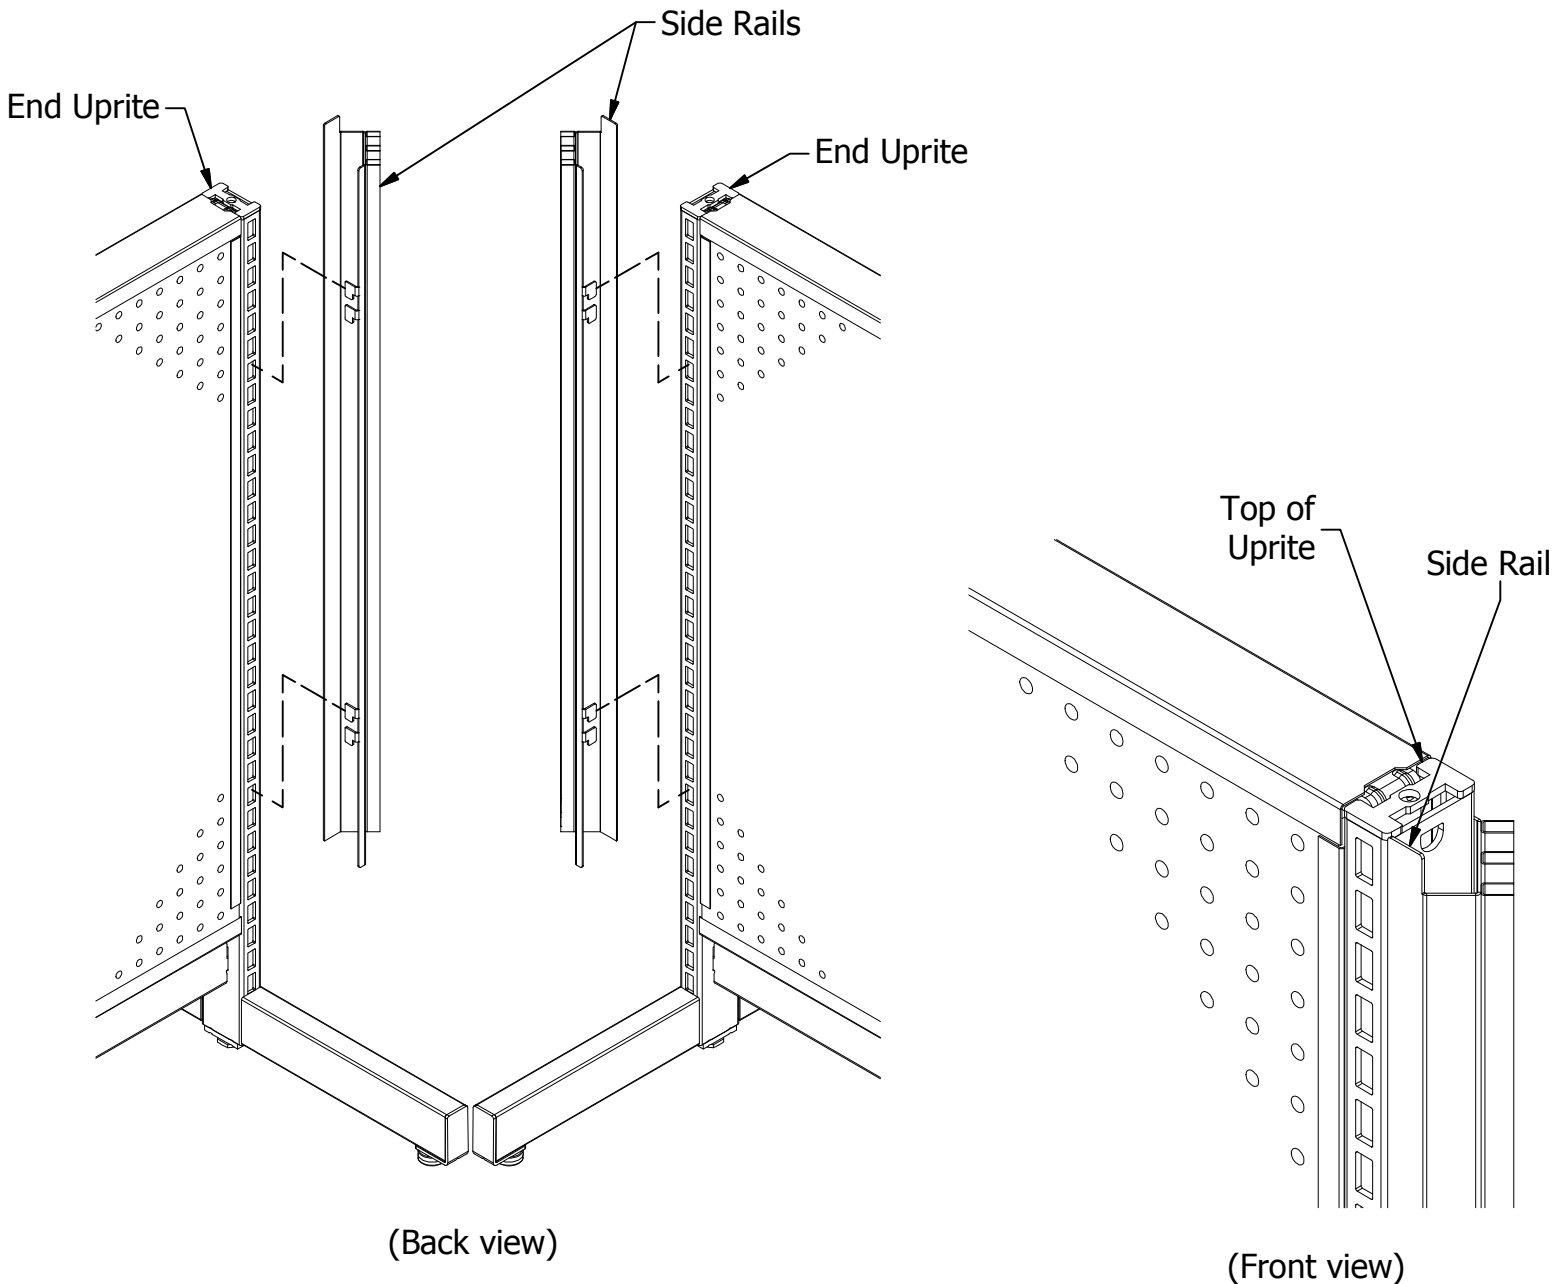

Figure 2
STEP 2: Install Side Rails, from corner rail kit, on back of the End Uprights so the top flange of the Side Rails are near flush with the top of the Uprights. (See Figure 2)